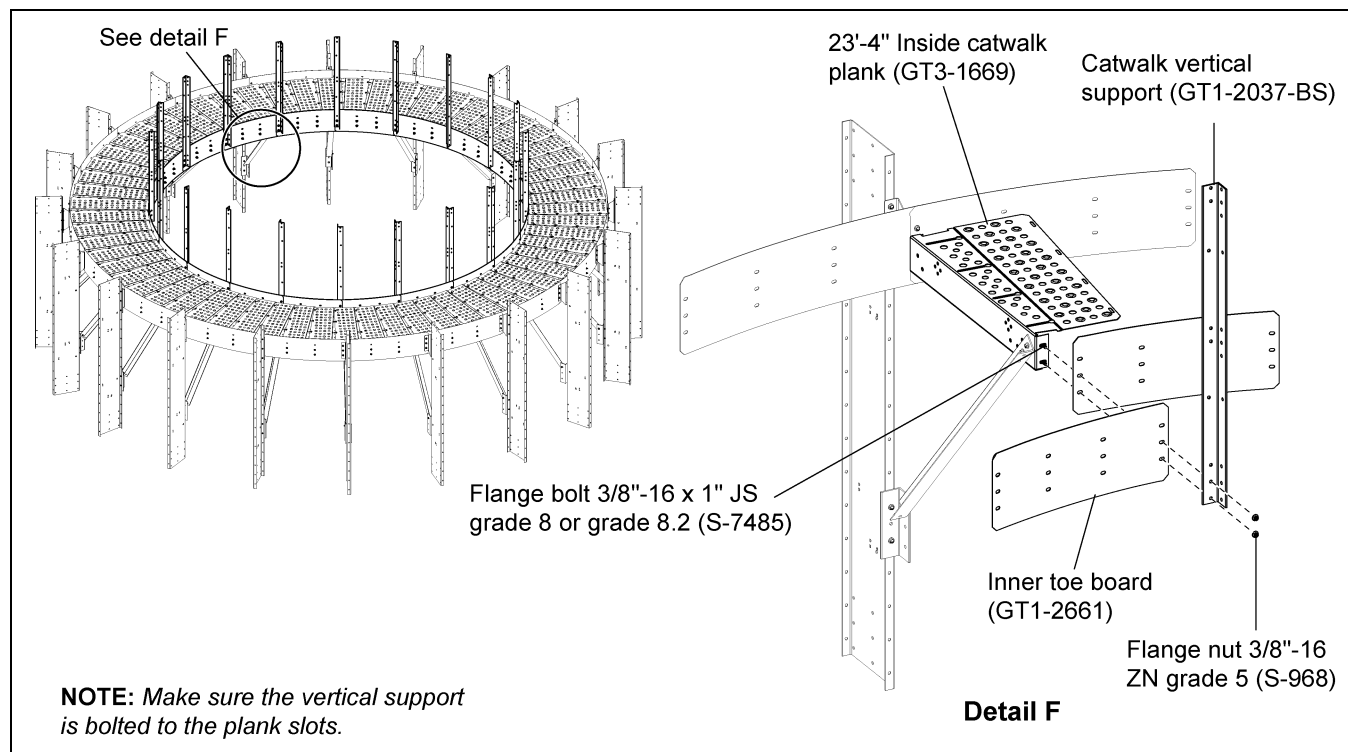

Figure 5J
1. Install all the inner toe boards (GT1-2661) to the planks (GT3-1669). *(See Figure 5J.)*
2. When installing the inner toe board with planks, install the catwalk vertical support (GT1-2037-BS) simultaneously at proper locations using 3/8"-16 x 1" JS grade 8 or grade 8.2 bolts (S-7485) and 3/8"-16 ZN grade 5 nuts (S-968). *(See Figure 5J.)*